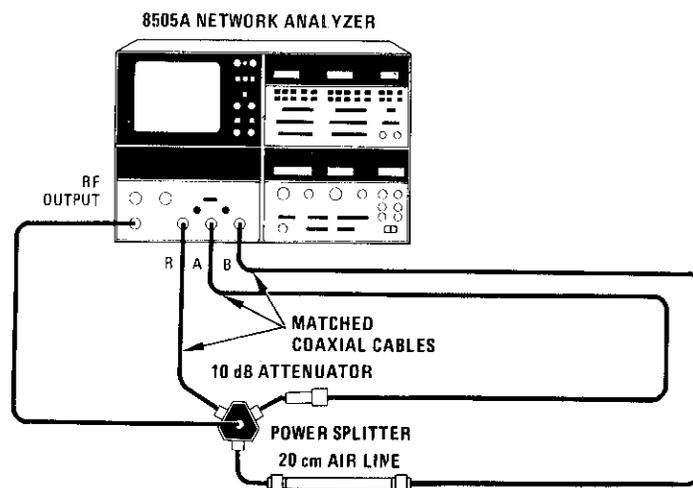

Figure D3-1B. A3 Signal Processor Troubleshooting Test Setup (Polar)
- o. Connect equipment as shown in Figure D3-1B and set 8505A controls as follows: